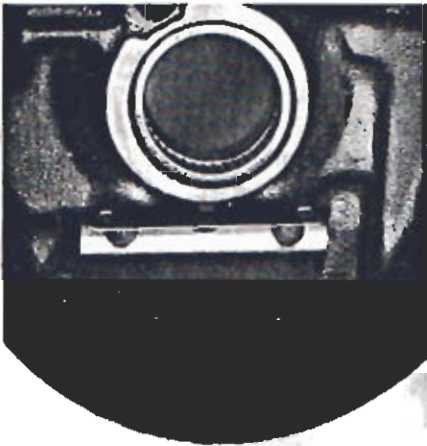

Figure 3 Install oil baffle
**STEP 3** Position front center portion of baffle (53) above with outer tabs below boss at front of case then lift curved portion at rear to snap the two large holes in baffle over the spherical bosses at rear of case, figure 3.